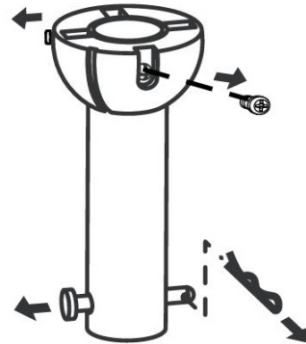

Fig. 5
2. Remove the hitch pin by removing the lock clip. **Fig.5**